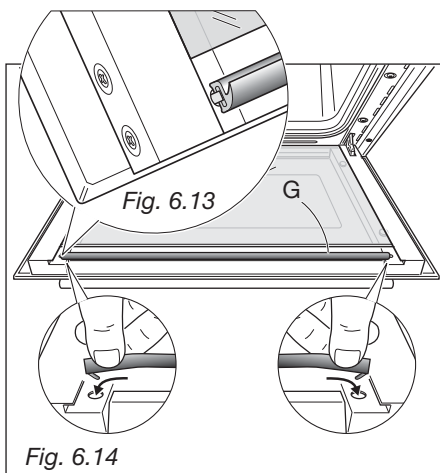

Fig. 6.14
- Top oven door only: Reassemble the seal **G** in the correct way (fig. 6.13) by hooking the no. 2 (two) fixing hooks in the proper holes (fig. 6.14).